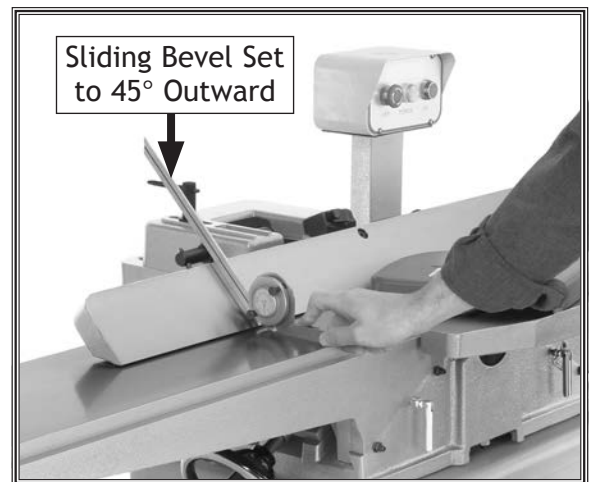

Figure 58. Example of adjusting fence to 45° outward.
3. Place sliding bevel set to 135° against fence and table, as shown in **Figure 58**.